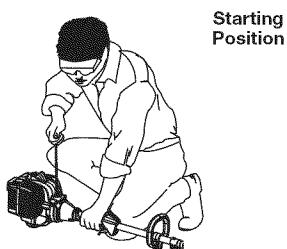

Fig. 8
**WARNING:** Avoid accidental starting. Make sure to be in the starting position when pulling the starter rope (Fig. 8). To avoid serious injury, the operator and unit must be in a stable position while starting.
5. Crouch in the starting position (Fig. 8). Do not squeeze the throttle. Pull the starter rope in a controlled motion until the unit starts.
5. Crouch in the starting position (Fig. 8). Do not squeeze the throttle. Place the Plug-In Power Start or Power Bit Start into the back of the unit. Refer to the Operation section of the Plug-In Power Start or Power Bit Start operator's manual.
6. Press and hold the ON (I) button of the Plug-in Power Start or Power Bit Start equipped drill in intervals no longer than 4 seconds each until the unit starts.
7. Wait and allow the unit to idle for 5 - 10 seconds. If the unit stops running during this time, squeeze the throttle control, then press and hold the ON (I) button of the Plug-in Power Start or Power Bit Start equipped drill in intervals no longer than 4 seconds each until the unit starts.
**IF...** The engine fails to start after a few attempts, squeeze the throttle control, then press and hold the Plug-In Power Start or drill ON (I) button in intervals no longer than 4 seconds each until the unit starts.